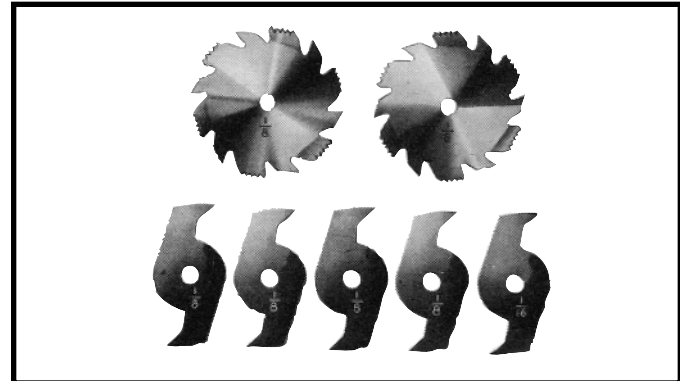
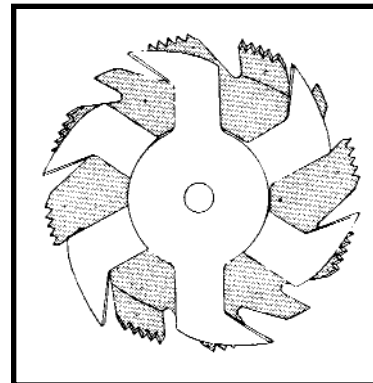
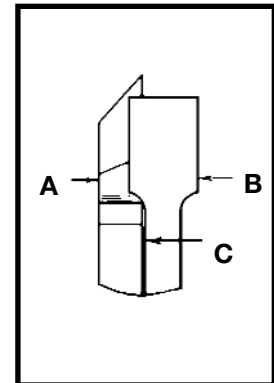

Fig. 66
Fig. 67
Fig. 68
1. Dadoing is cutting a rabbet or wide groove into the work. Most dado head sets are made up of two outside saws and four or five inside cutters, (Fig. 66). Various combinations of saws and cutters are used to cut grooves from 1/8" to 13/16" for use in shelving, making joints, tenoning, grooving, etc. The cutters are heavily swaged and must be arranged so that this heavy portion falls in the gullets of the outside saws, as shown in Fig. 67. The saw and cutter overlap is shown in Fig. 68, (A) being the outside saw, (B) an inside cutter, and (C) a paper washer or washers, used as needed to control the exact width of groove. A 1/4" groove is cut by using the two outside saws. The teeth of the saws should be positioned so that the raker on one saw is beside the cutting teeth on the other saw.